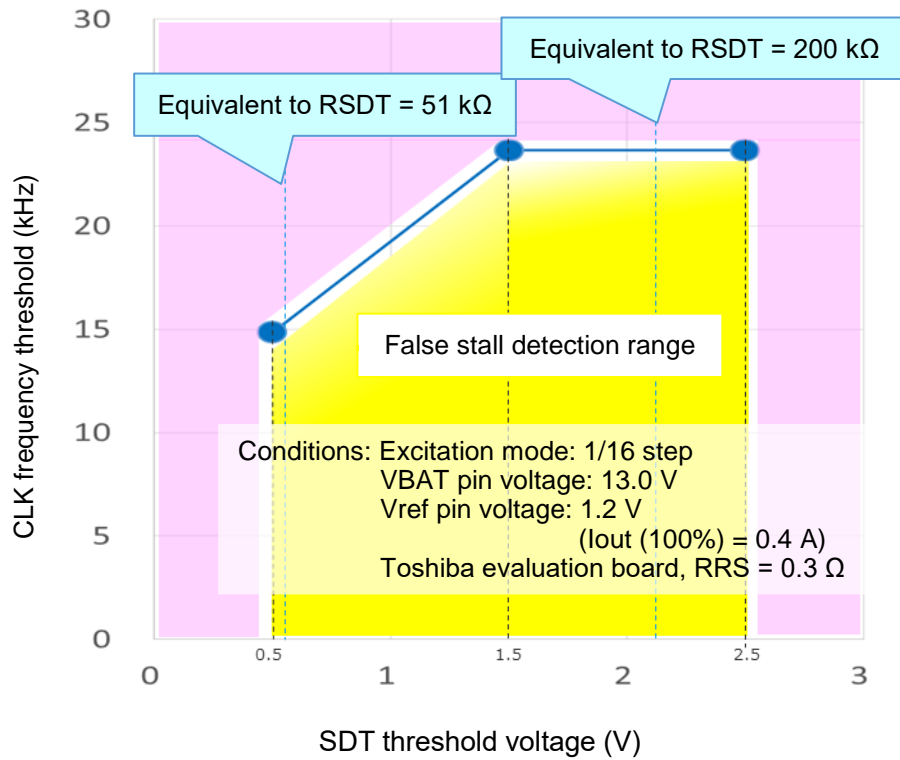

Figure 14. SDT threshold voltage vs. CLK frequency threshold (for reference)
- As shown in Figure 14, the result is as follows: